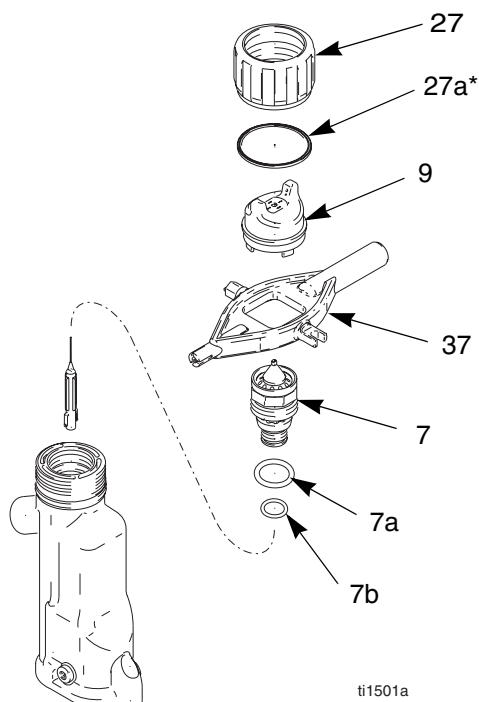

Fig. 11. Air Cap/Nozzle Replacement
2. Remove the retaining ring (27) and air cap (9). See FIG. 11..
3. Point gun up and squeeze trigger while removing the fluid nozzle (7) assembly with the multi-tool (37).